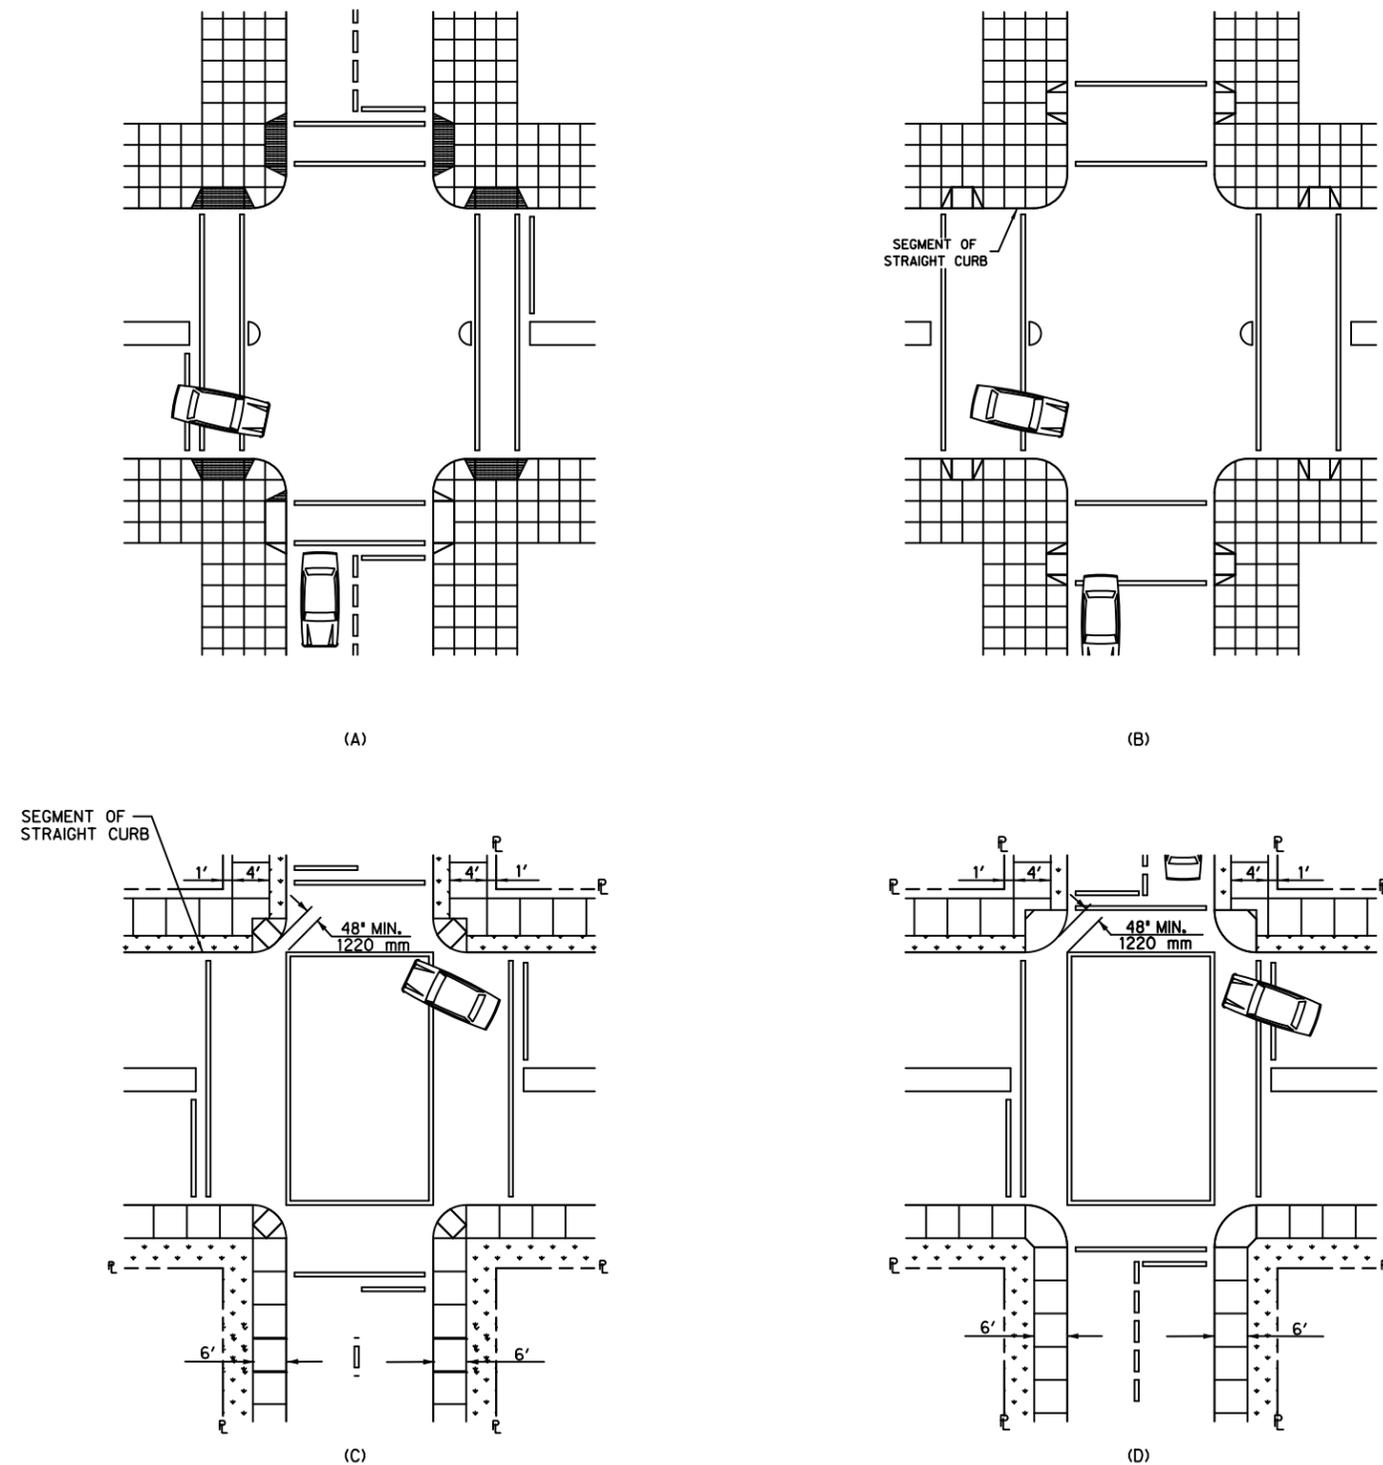

FIGURE 4
CURB RAMPS AT MARKED CROSSINGS SHALL BE WHOLLY CONTAINED WITHIN THE MARKINGS, EXCLUDING ANY FLARED SIDES (SEE FIG. 4).
IF DIAGONAL (OR CORNER TYPE) CURB RAMPS HAVE RETURNED CURBS OR OTHER WELL DEFINED EDGES, SUCH EDGES SHALL BE PARALLEL TO THE DIRECTION OF PEDESTRIAN FLOW. THE BOTTOM OF DIAGONAL CURB RAMPS SHALL HAVE 48-INCHES (1220 MM) MINIMUM. IF DIAGONAL CURB RAMPS ARE PROVIDED AT MARKED CROSSINGS, THE 48-INCH (1220 MM) CLEAR SPACE SHALL BE WITHIN THE MARKINGS (SEE FIG. 4 (C) AND (D)). IF DIAGONAL CURB RAMPS HAVE FLARED SIDES, THEY SHALL ALSO HAVE AT LEAST A 24-INCH (610 MM) LONG SEGMENT OF STRAIGHT CURB LOCATED ON EACH SIDE OF THE CURB RAMP AND WITHIN THE MARKED CROSSING (SEE FIG. (C) ISLANDS).
ANY RAISED ISLANDS IN CROSSINGS SHALL BE CUT THROUGH LEVEL WITH THE STREET OR HAVE CURB RAMPS AT BOTH SIDES AND A LEVEL AREA AT LEAST 48-INCHES (1220 MM) LONG BETWEEN THE CURB RAMPS IN THE PART OF THE ISLAND INTERSECTED BY THE CROSSINGS (SEE FIG. 4 (A) AND (B)).